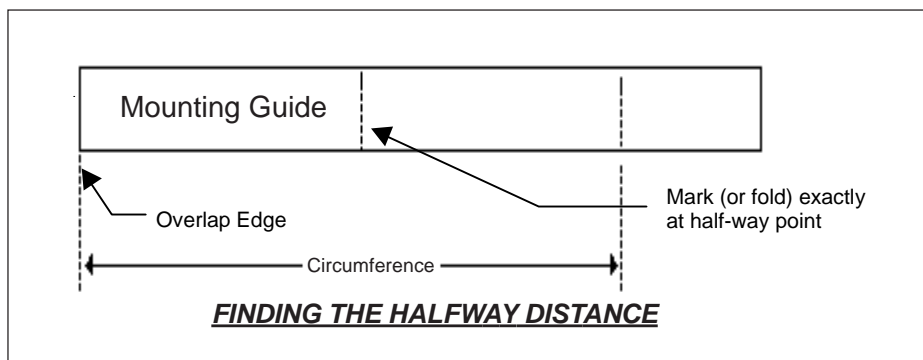

Figure 7
- Remove Mylar Mounting Guide and lay it out on a flat surface (Figure 7). Either measure the exact distance halfway between the overlap edge and the mark at the overlap, or fold the guide from the overlap edge to overlap mark and draw a line at the fold or halfway point (see below).